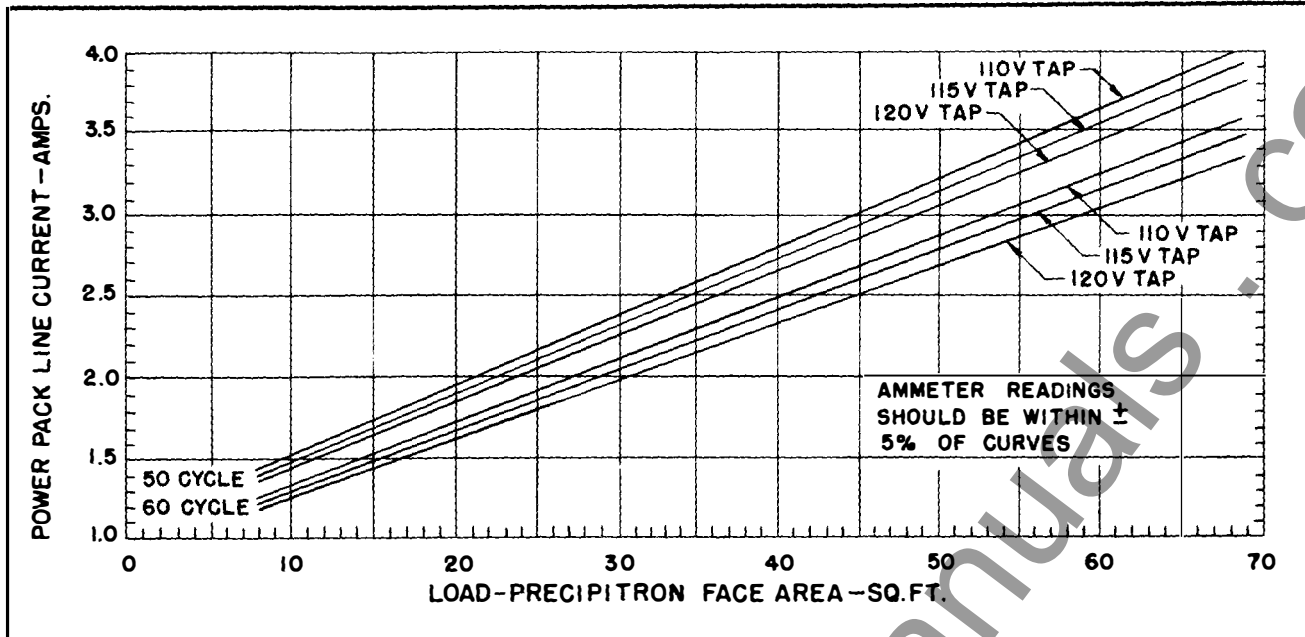

Fig. 6 Power Pack Input Current VS Precipitron Load
5. Record ammeter reading and compare with load curves in Fig. 6. Significantly high current indicates electrical leakage in the cells, ionizers or power pack. Low current indicates some ionizers or cells are not connected. See maintenance for correction of fault.